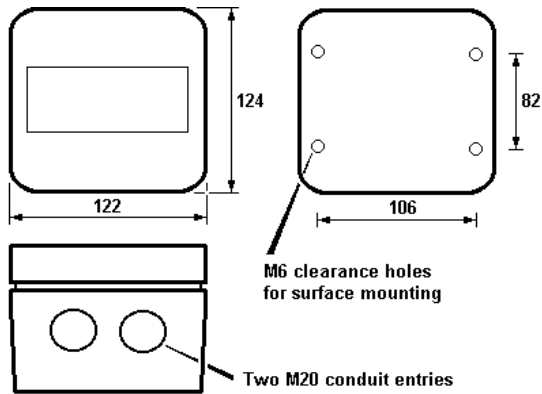

Fig 6 Dimensions and terminal connections
- e. Connect the field wiring to the terminals as shown in Fig 6.